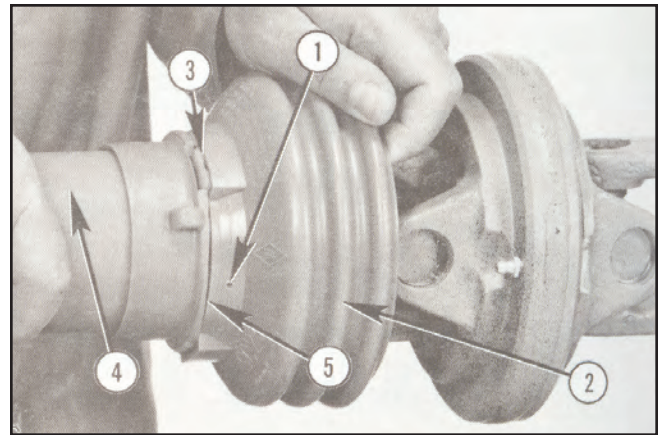

FIGURE 90
1. Refer to Figures 90 and 91, page 39 for removal of necessary PTO shields.
2. Relieve radial drag on the internal snap ring (eg. (1) in yoke (2)) by circumferentially tapping it with a drift. With snap ring pliers, remove it. Repeat this for the other side of the yoke.
4. Rest joint assembly in a vice with yoke (3) across top of vice jaws. Use CAREFUL hammer blows to drive center cross needle bushing (4) upward.